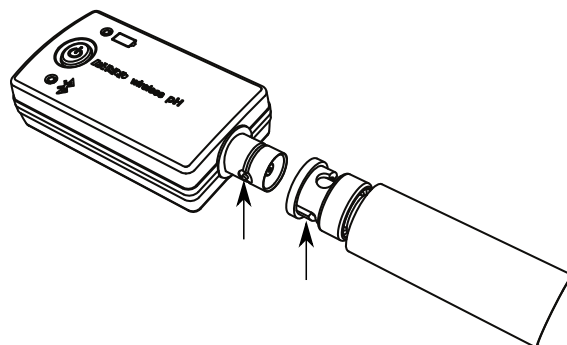

Figure 1. Align the tabs on the sensor's BNC connector with the slots on the pH probe's BNC connector.
1. Align the tabs on the sensor's BNC connector with the slots on the probe's BNC connector (Figure 1).